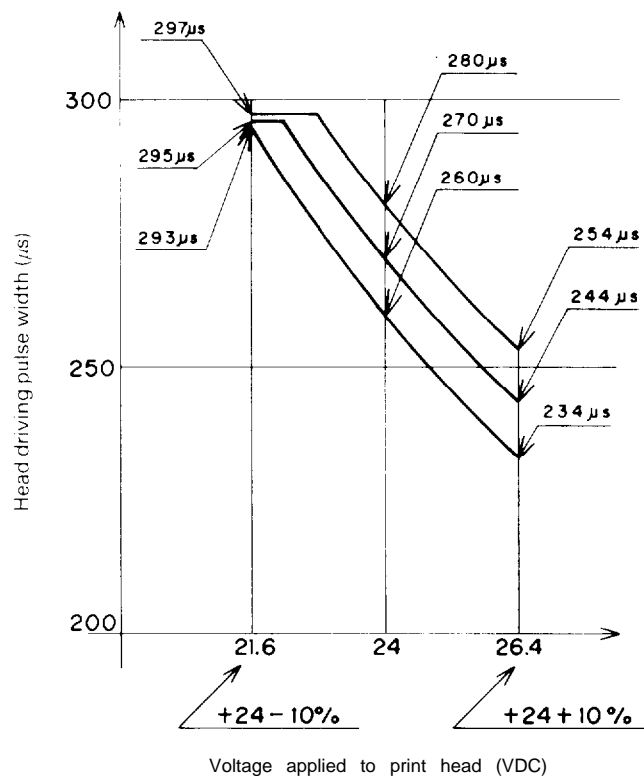

Fig. 2.36 Applied head voltage and driving time
2.4.6 Head driver circuit (Fig. 2.36)